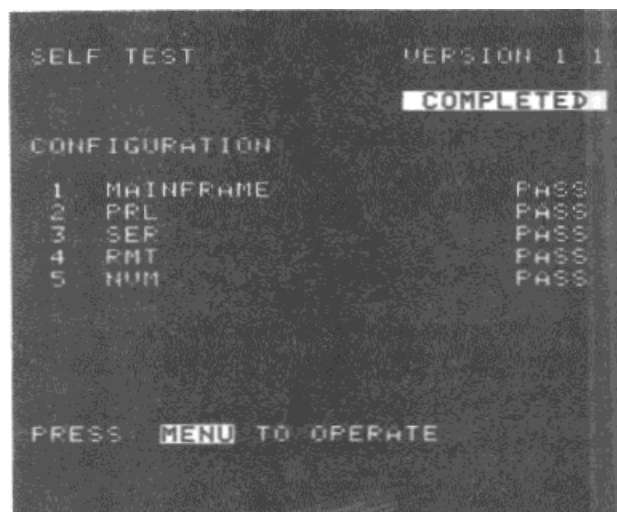

Figure 5-35. 338 successful power-up diagnostics display.
2. Approximately seven seconds after power is turned on the screen display is initialized. Check to insure that FAIL is not displayed in any of the test fields. Refer to Figure 5-35.